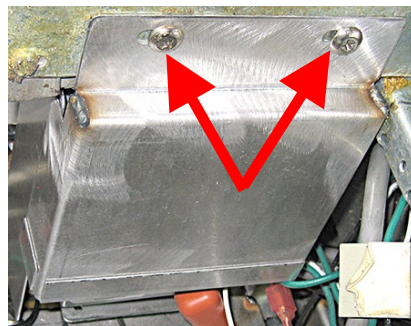

Figure 81
- 80. Reattach module covers (see Figure 81).